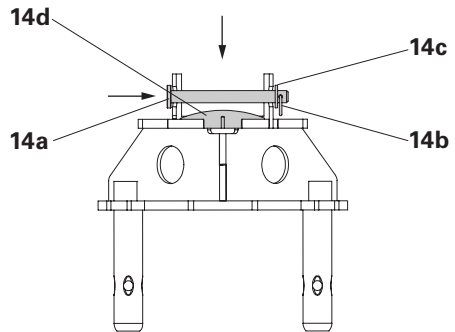

Fig. 30
4. Turn Connector UJC (14) and correctly position the spherical piece (14d). (Fig. 30)
5. Re-attach connecting bolts, plate and cotter pins. (Fig. 30)